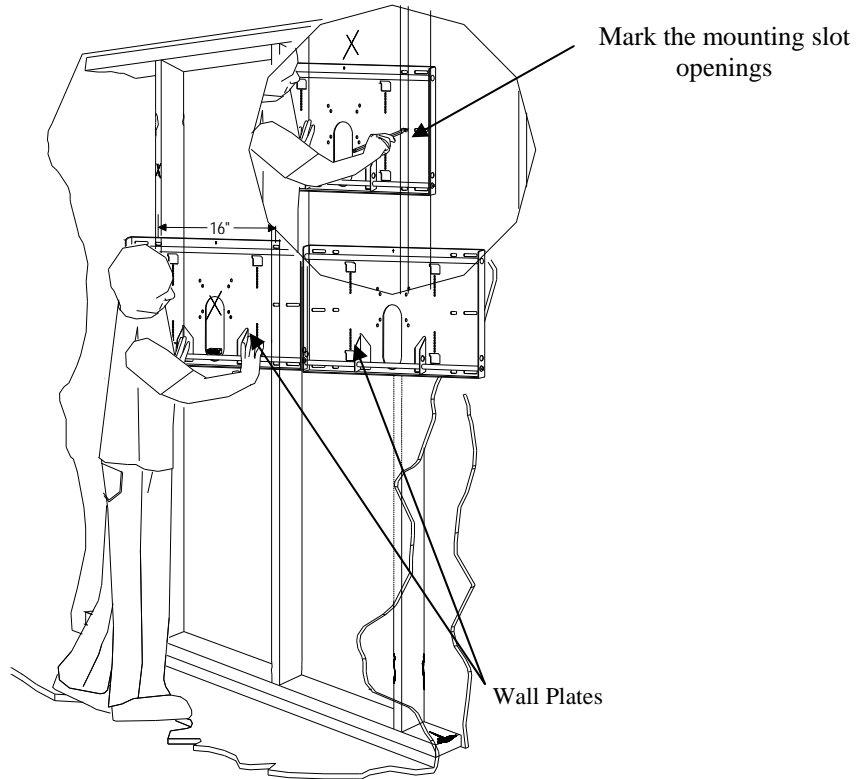

Figure 15
5. Once the mounting rod screw is removed, insert one (1) 1 1/4" set screw.
9. Insert two (2) M8 x 16mm hex head bolts through the two holes and secure with two (2) M8 hex nuts.
11. Level the wall plate with the reference arrow pointing up to the ceiling (Figure 15).